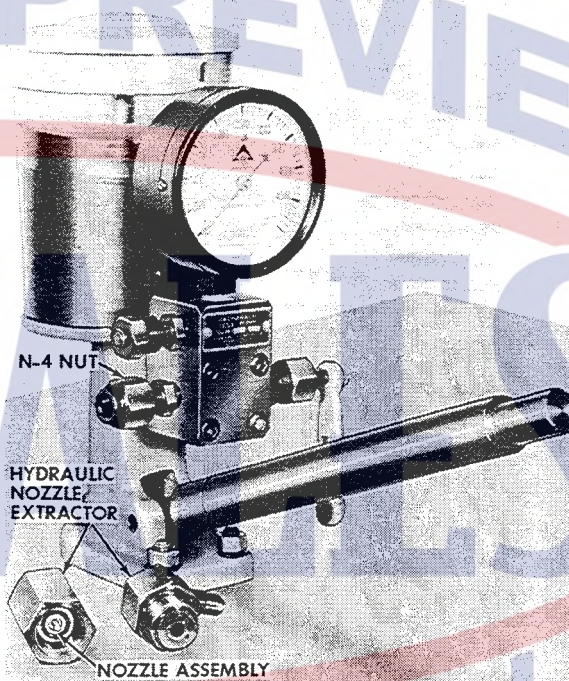

Figure I-17
Nozzles that cannot be readily disassembled after soaking in carbon solvent should be placed in the CD-534 Hydraulic Nozzle Extractor, Figure I-17. The CD-534 Hydraulic Nozzle Extractor can be installed on either the Bacharach or American Bosch Nozzle test stand. The nozzle extractor utilizes the hydraulic pressure developed by the nozzle test stand to force the nozzle valve out of the nozzle body.
- b. Install the stuck nozzle assembly in the extractor, Figure I-17.